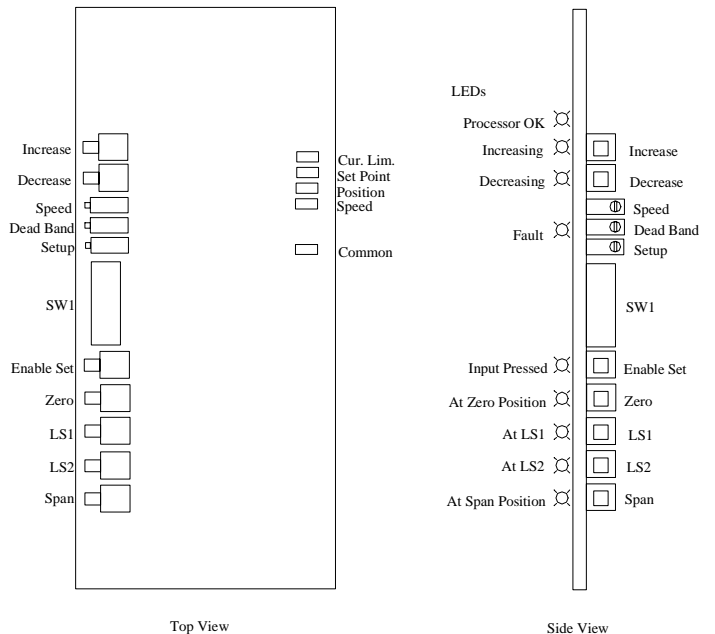

Figure 3
voltmeter connected between "SPEED" and "COMMON" test points (Figure 3).
- 6) **Speed Adjust** Actuator output speed is set by the motor speed pot. Adjust the motor speed pot to desired actuator output shaft speed. CW rotation increases speed. The desired speed can be adjusted by using the graph shown in Figure 4 with a voltmeter connected between "SPEED" and "COMMON" test points (Figure 3).